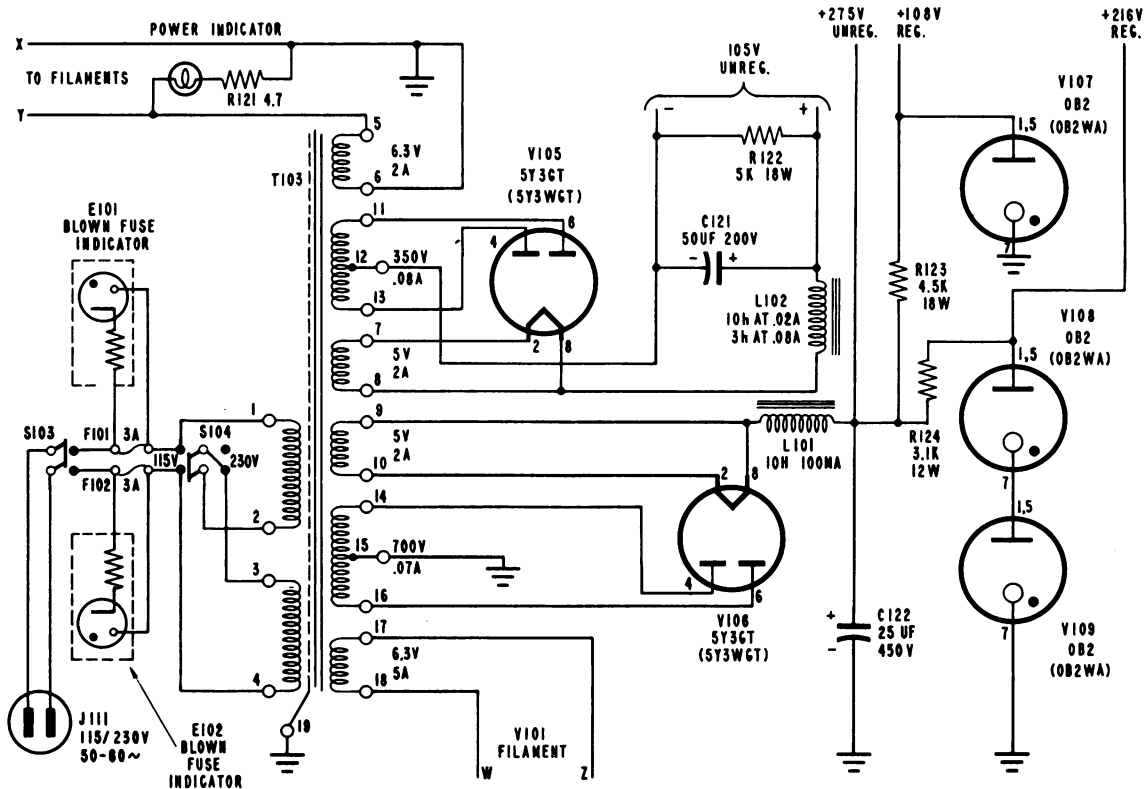

Figure 2-7. Schematic Diagram of Telegraph Carrier Transmitter Power Supply
e. POWER SUPPLY CIRCUIT. - Figure 2-7 is a schematic diagram of the power supply that provides the necessary filament and B+ voltages for the circuits of the telegraph carrier transmitter and the telegraph loop circuits. Primary power is supplied through the ON-OFF switch S103 and the 3 amp fuses F101 and F102, each of which has a neon type BLOWN FUSE INDICATOR E101 and E102. The 115 to 230 volt switch S104, connects the two primary windings of the power transformer T103 in series for 230 volt operation and in parallel for 115 volt operation. A 120 volt source consisting of the 350 volt center-tapped winding of T103, a full-wave 5Y3GT type rectifier V105, a